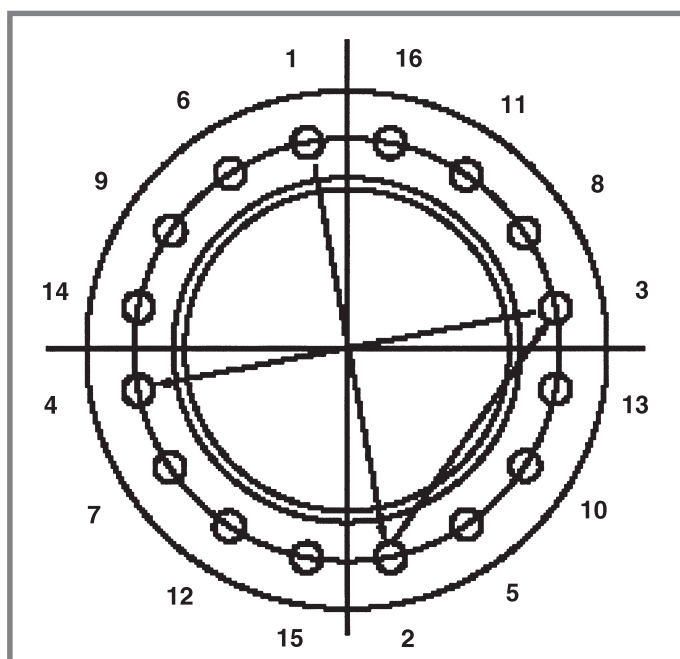

Fig. 14
4.11 When it is necessary to substitute and /or connect the heads covers of the H.E it is necessary to apply the torque indicated in table 1 the values are for lubricated surfaces of bolts and studs. The tightening must be done evenly operating on diametrically opposite bolts as fig. 14